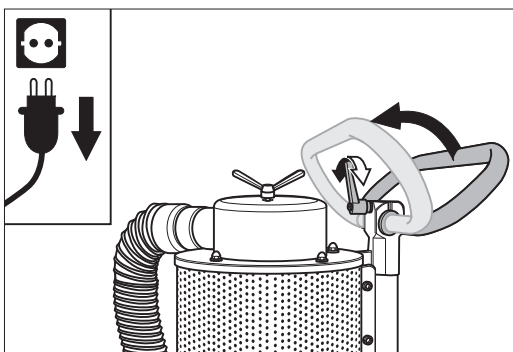

Fig. 51 To tilt the machine, release the clamping lever of the handle first and press the handle forward.
- 3 Release the clamping lever of the handle, press handle forward and pull the clamping lever back into its prior position (Fig. 51).